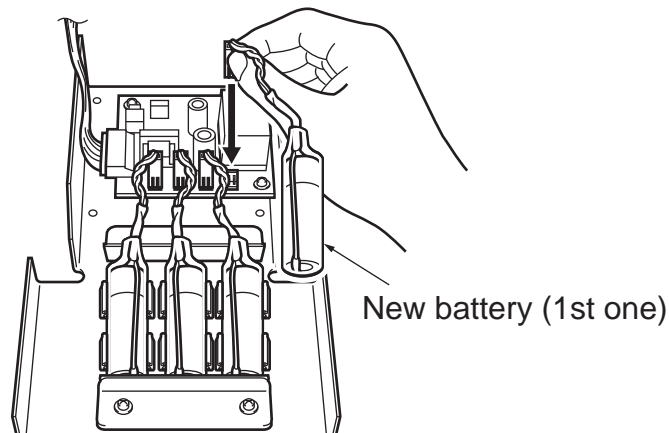

Figure 5-4. Connecting First New Battery
6. Connect a new battery (1st one) to the pin from which you have disconnected the dummy connector cap in Step 5. See Figure 5-4.